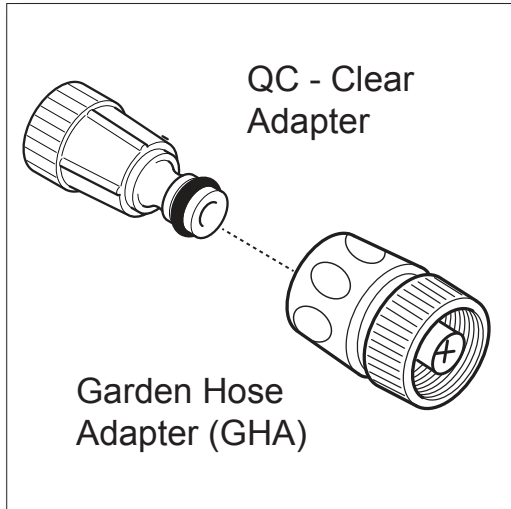

Fig. 13
- Install the garden hose adapter (GHA) and quick connect filter. It is made up of two separate pieces. (1) A clear plastic adapter with a screen filter (about 3 inches long) and (2) a blue/black collar attachment (**Fig. 13**).